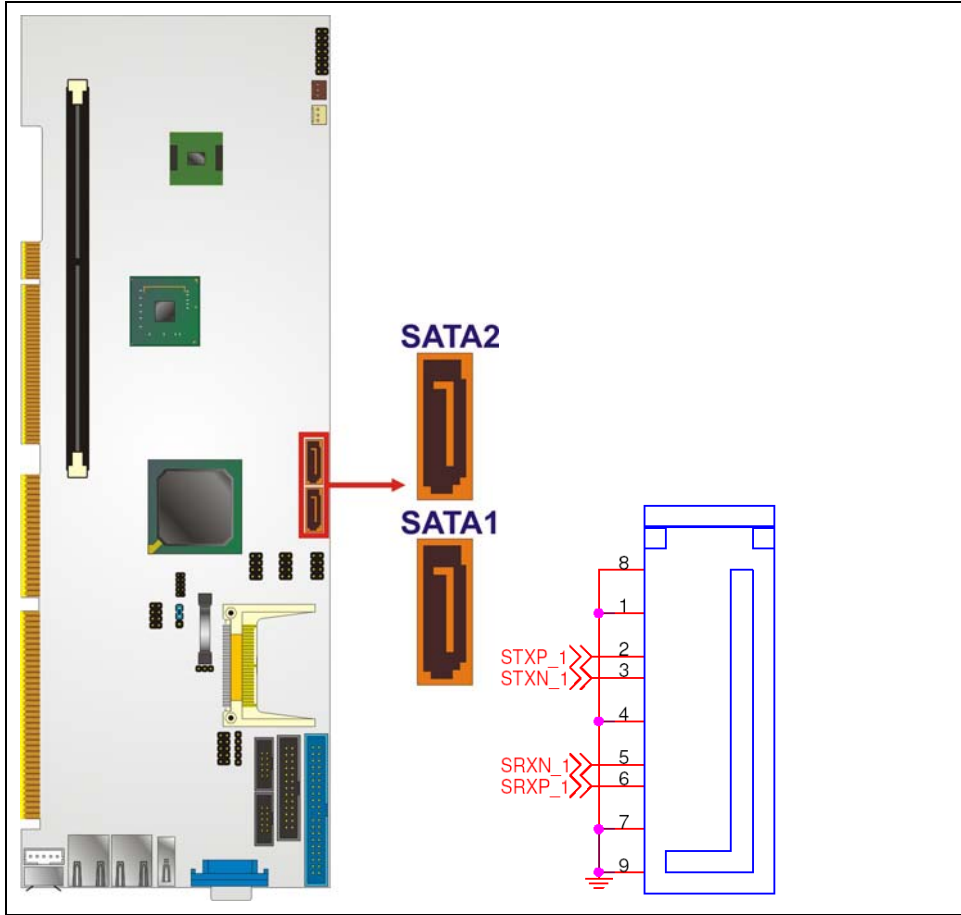

Figure 4-12: SATA Drive Connector Locations
- CN Location:** See **Figure 4-12**